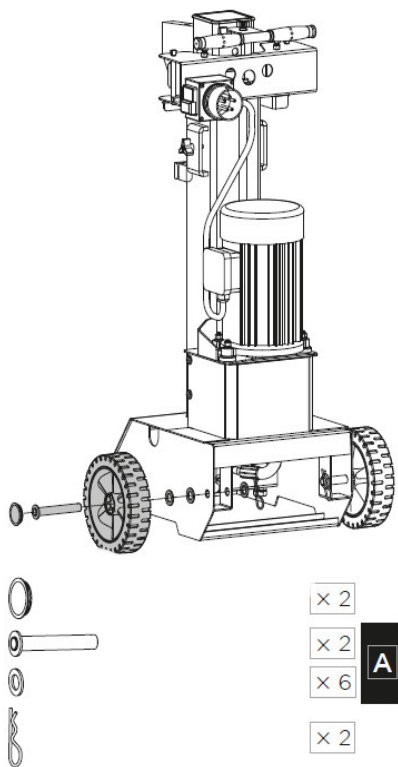

Fig. 6: Mounting the wheels
Step 1: Pass the axle through the wheel from outside and put on two washers as shown in the figure 6.